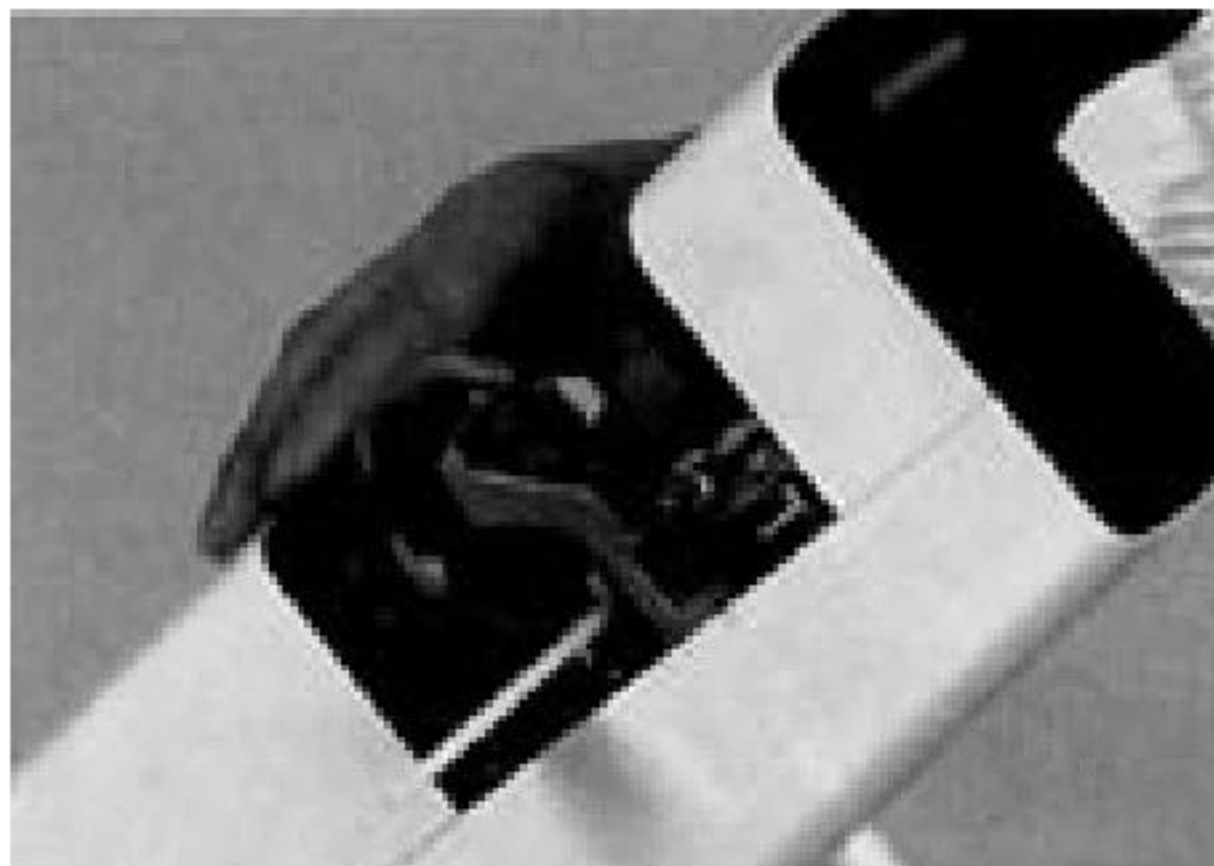

Fig. 12
3.10 Astigmatism axis measuring hand wheel (Fig.12)